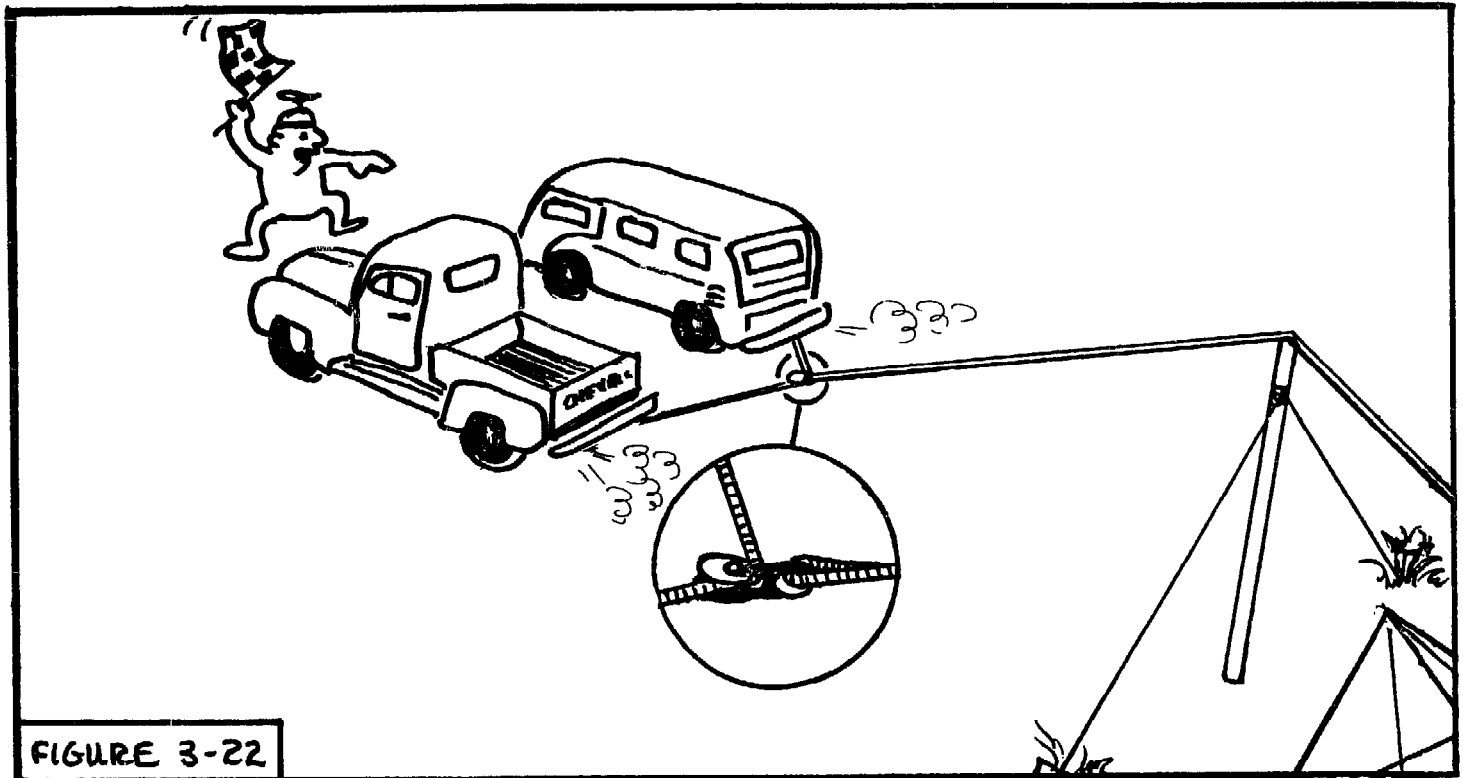

FIGURE 3-22
4. There are several ways in which a lift vehicle can be relieved of having to exert the full force (or raising-cable tension) required to raise the tower; one that should come to mind is to use two vehicles. If each vehicle is separately tied to the tower (by a raising cable) this unnecessarily complicates the situation; as well, the actual raising will probably be quite jerky (and the strain on the cable more severe) because the vehicles would have a hard time of pulling exactly equal with one another through the entire lift. A simpler arrangement that accounts for this problem is shown in Fig. 3-22; any momentary slackening of the pull from either vehicle will be instantly taken up by the other.